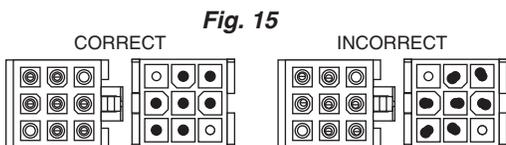

Fig. 15
B. Notice the wire connectors in the switch cup and on the motor. They are color coded and notched to fit only one way. Check the pins in both connectors for alignment as shown in fig. 15. If they the pins are only slightly misaligned, bundle the wires tightly behind the connector when connecting. Push the connectors together until latch secures them together and make sure none of the pins were pushed out. Position the switch cup on the switch cup plate, aligning the three holes in each. Insert the three switch cup screws and tighten. Fig. 16.